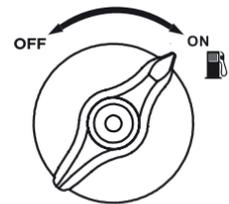

Figure 7: Turn Fuel Switch to ON Position
5. Turn the Fuel Control Switch to the ON(RUN) position (see Figure 7).